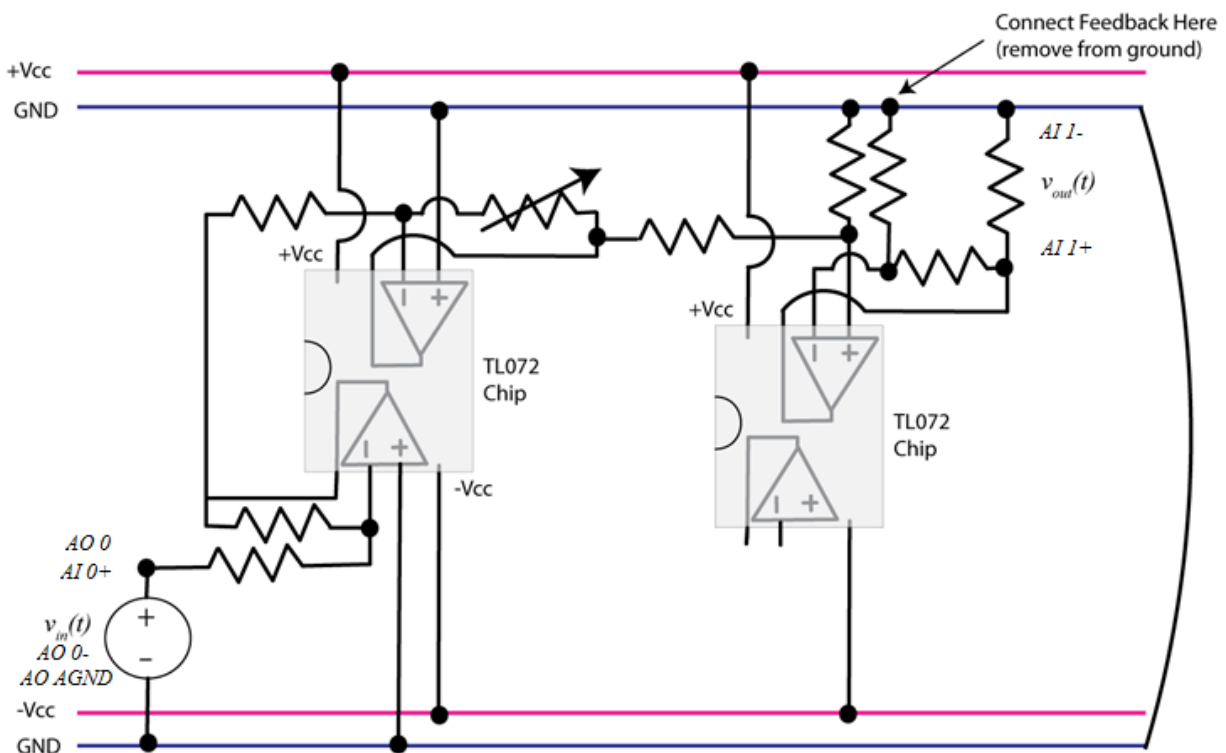

Figure 9: Prefilter and Differential Amplifier Schematic
1. Next, connect the prefilter and differential amplifier as shown in Figure 9.